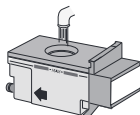

Figure 2
See figure 2. Be aware of excess water from the steam tray, we recommend you place it directly on a flat dish or tray to avoid spillages.
3. Fill the water tank with room temperature water suitable for drinking (filtered) through the lid to the MAX mark each time you begin to cook. (Figure 2) Do not fill the water tank over the MAX mark.